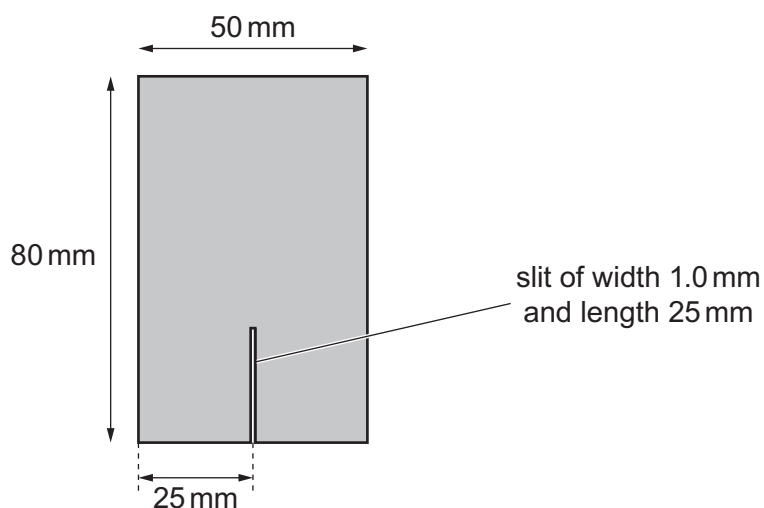

Fig. 1.1
1. If a ray box with slit is unavailable, a slit plate should be cut from a piece of rigid card into a rectangle of length 80 mm and width 50 mm. A slit of width 1.0 mm and length 25 mm should be cut into the card at 25 mm, as shown in Fig. 1.1.